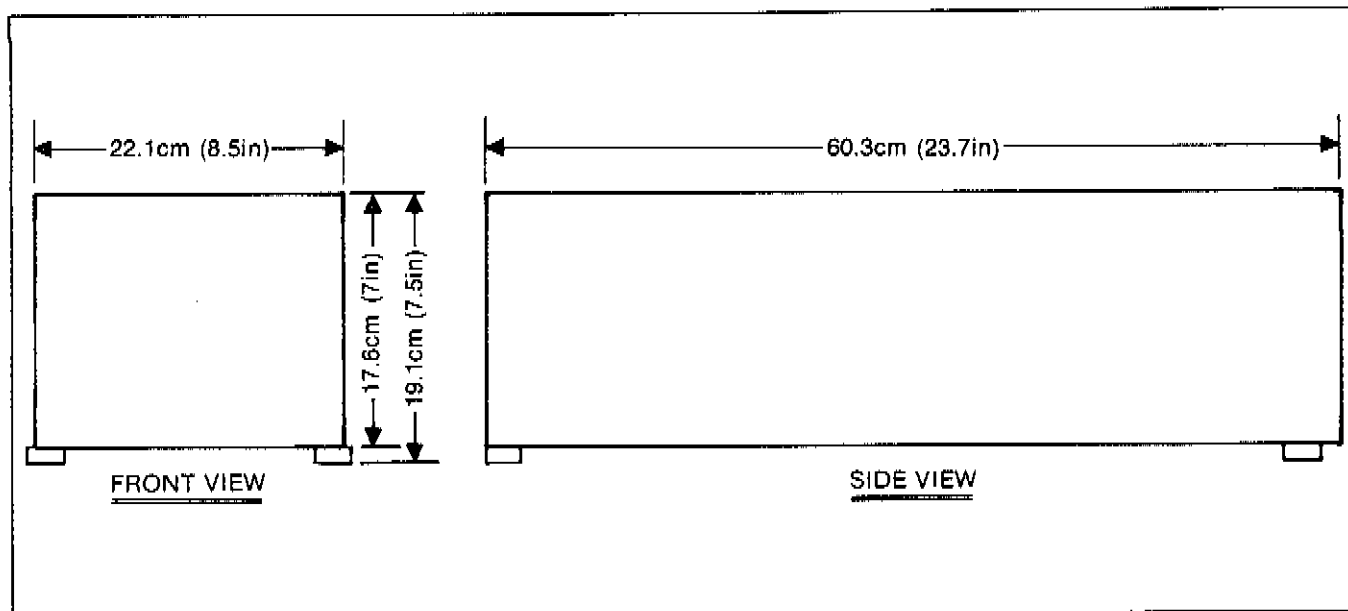

Figure 1-1. Outside Dimensions
7.5 in. x 8.5 in. x 23.7 in. (see Figure 1-1)**WEIGHT** 12.3 kg (27 lbs.)**COMPLIANCE WITH EXTERNAL****STANDARDS** ANSI C39.5 Draft #8